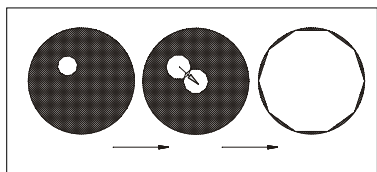

Fig. 18
(3) Move the 20X objective into light path and focus the specimen.
(4) Rotate the field diaphragm adjustment ring ③ to put the field diaphragm to the smallest position, then the image of field diaphragm can be observed through eyepiece.
(5) Rotate the condenser up-down knob to adjust the image to the clearest.
(6) Adjust the condenser center adjusting screw ④ to put the image to the center of the field of view.
(7) Open the field diaphragm gradually. If the image is in the center all the time and inscribed to the field of view, it shows condenser has been centered correctly. (See Fig. 18)
(8) In use, you can enlarge the field diaphragm and make the image circumscribed to the field of view.